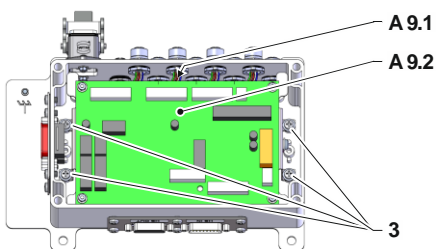
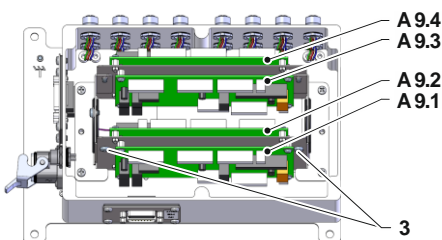

Fig. 3: Evaluation unit up to 8 circuits
Fig. 4: Evaluation unit up to 16 circuits
- Remove or detach screws (Label 3 → Fig. 3, Fig. 4) and take out PC board holder.
- Insert the printed circuit board holder with printed circuit board and attach or tighten screws (Label 3 → Fig. 3, Fig. 4) .